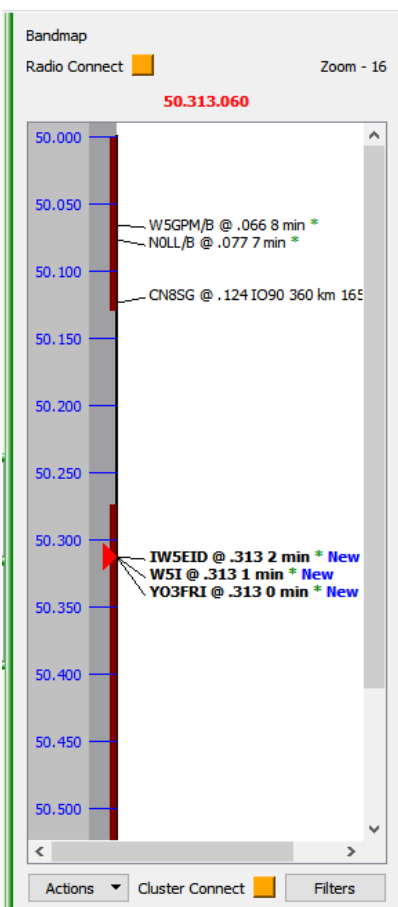

Figure 143 – Bandmap display
An example display is shown in Figure 143. **Beware:** if you don’t see anything, check your filters
To vary the zoom in order to focus on areas of interest use the scroll wheel¹²⁸ while hovering over the grey frequency bar. The current zoom setting (- 16, the least zoom, in Figure 143) is displayed in the top right of the panel. The scroll bar on the right can be used to move within the extended display thus created, or the scroll wheel while hovering over the white portion of the panel¹²⁹.
- The current rig frequency is indicated by the black 'play' symbol ('dial cursor' on 144.290 in Figure 143). If this symbol turns red it indicates that it is a frequency/mode pairing that does not match the bandplan.
- If the dial cursor is not viewable, click the dial frequency at the top of the panel (144.290 at top of Figure 143) to bring that frequency back into the viewport.